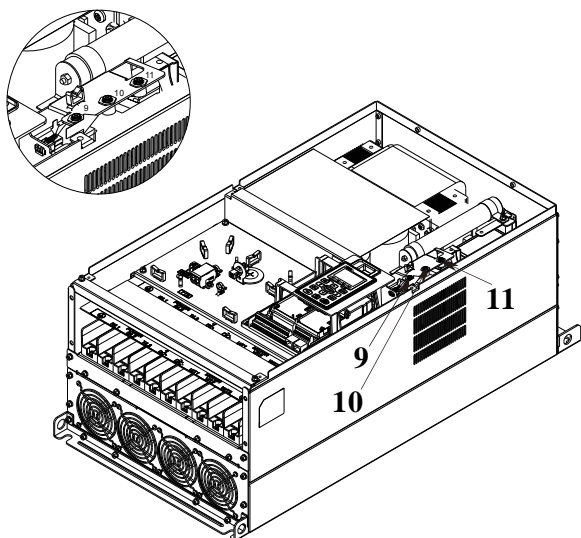
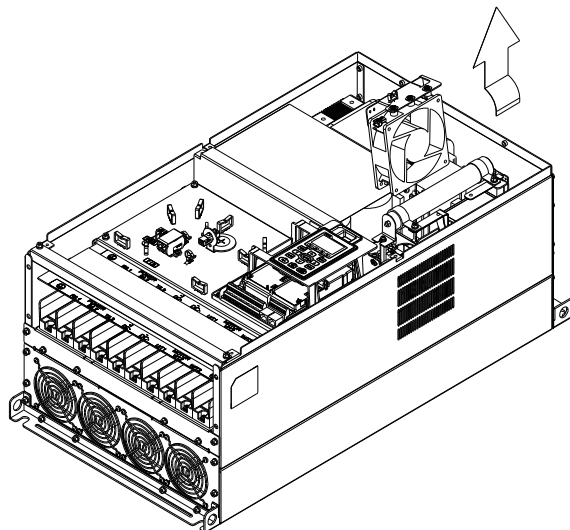

Figure3
Figure 4
(1) Loosen the screws 1~4 (as shown in figure below) and remove the cover. Screw torque: 14~16kg-cm (12.2~13.9lb-in).
(2) Loosen the screws 5~8 (as shown in figure below) and remove the cover. Screw torque: 24~26kg-cm (20.8~22.6lb-in).
- (3) As shown in the partially enlarged image, disconnect the fan's power.
- (4) Loosen the screws 9~11 (figure 3) and remove the fan (figure 4). Screw torque: 24~26kg-cm (20.8~22.6lb-in)